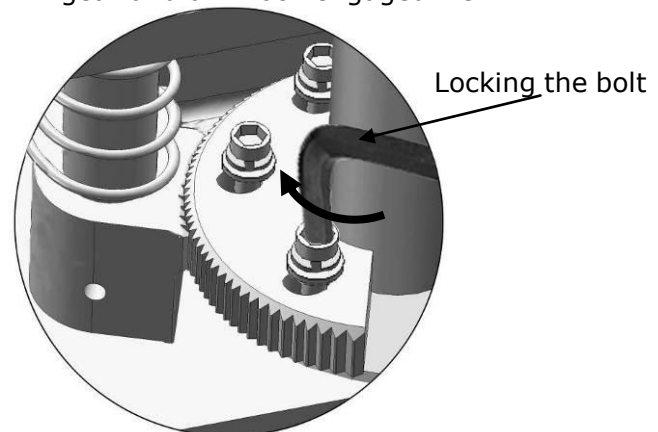

Fig. 36
4. Adjust moon gear and arm lock to make it to be meshed, then tighten the socket bolts of arm lock (See Fig. 36).